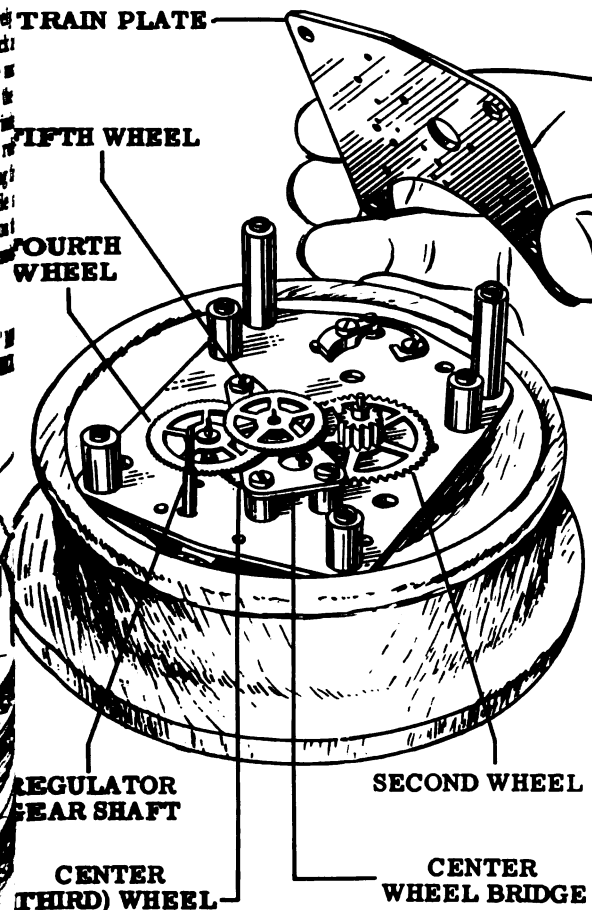

Figure 46
13. Unscrew the two train plate screws. Unscrew the two back plate pillars with the pillar pliers (Tool No. 6A) and remove the train plate as shown in Fig. 46.